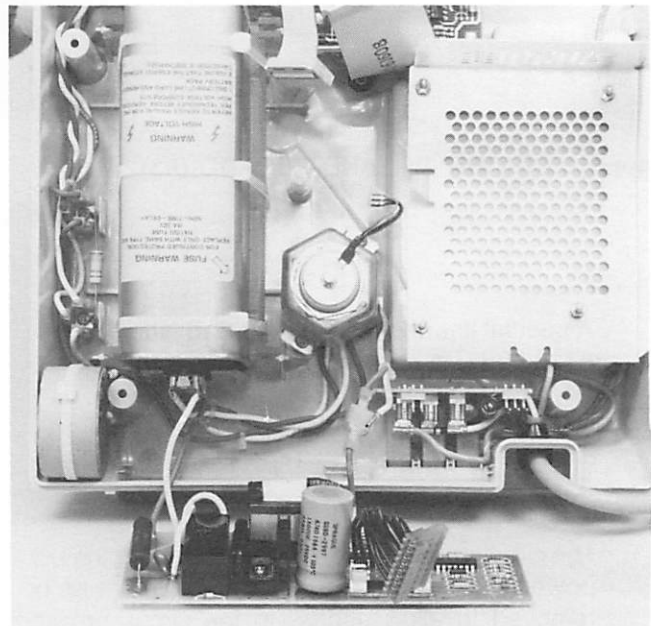

Figure 4-5.
2. Remove, but do not disconnect, the defibrillator H.V. charger board (A5). See Figure 4-5.